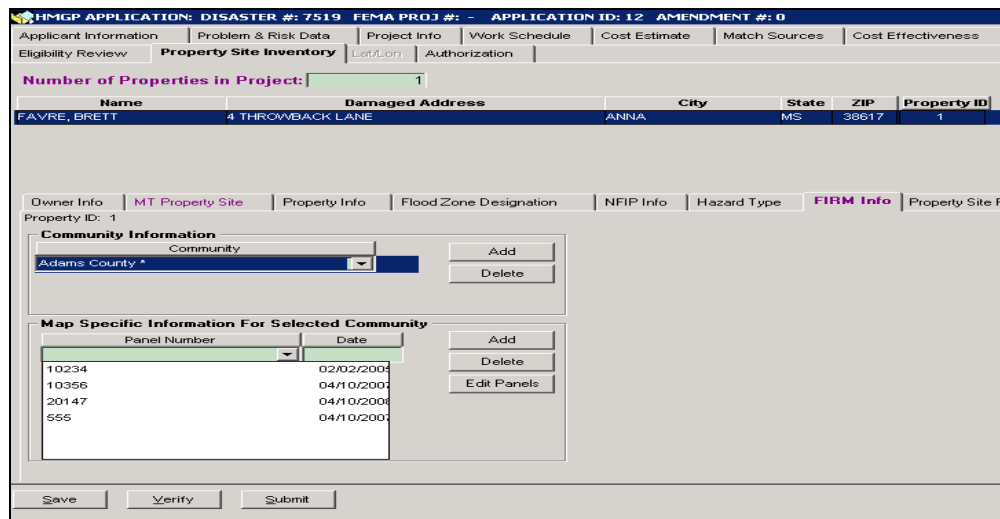

Figure 6-100: Map Specific Information for Selected Community
- d. Under the Panel Number column, click the drop-down button. The Community Panel Numbers and their corresponding date are displayed. (Figure 6-100).